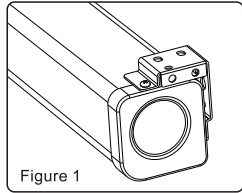

Figure 1
Using a tape measure find out the distance between the two keyholes on the casing (figure 1). According to the measurement, use the drill to drill identical holes of the appropriate size on the ceiling and ensure that it is level (figure 2 & 3). Screw in the hook screws (not provided), and lift the screen into the hook screws to hang (figure 4). To ensure that the screen is level, use a level to check (figure 5).
2. There are two way for wall brackets to fix on the housing. As you can see on the figure 1, which is our normal fixed way (namely factory set). While the other fixed way is to interchange the left and right wall brackets, and then fix onto the housing (namely functional installation way, as figure 2).
Using a tape measure, measure the distance between the two keyholes on the casing (figure 1). According to the measurement, use the drill to drill identical holes of the appropriate size on the wall (use a smaller drill bit than the actual screws) and ensure that it is level (figure 2 & 3). Screw in the appropriate screws, either 5 x 40 by itself for wood walls or with anchors for drywalls , leaving enough space at the end to hang the casing (figure 4). To ensure that the screen is level, use a level to check (figure 5).